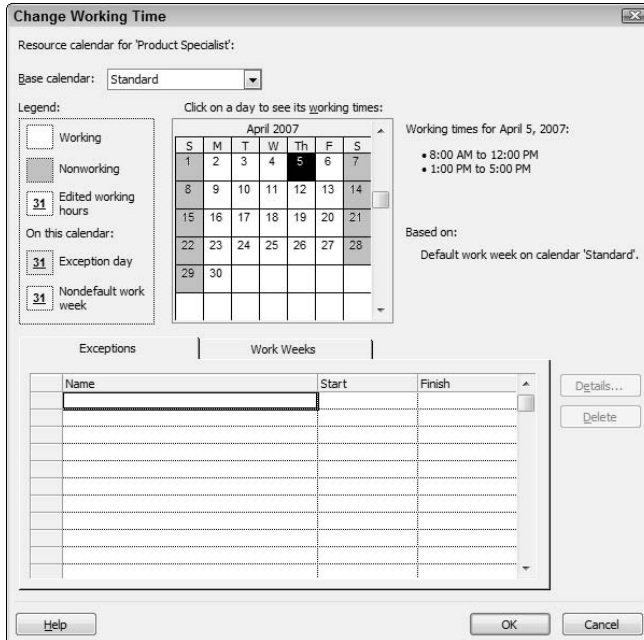

Figure 4-9:
- 3. Click the Change Working Time button to display the Change Working Time dialog box, shown in Figure 4-9.**